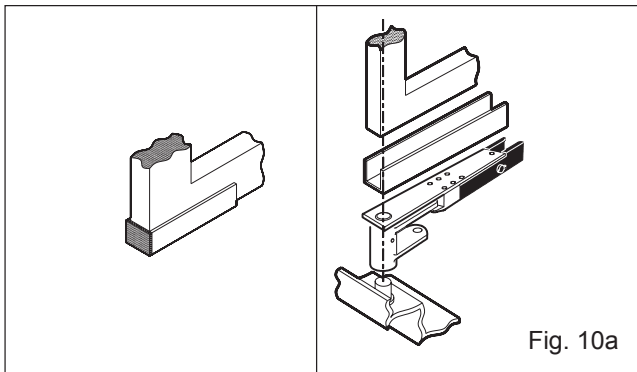

Fig. 10a
- Ascertain the correct location of the leaf on the "U" profile with reference to the axis of rotation (Figs. 10a and 10b);
- Seal the "U" profile on the post side with a plate, as shown in Figs. 10a and 10b.